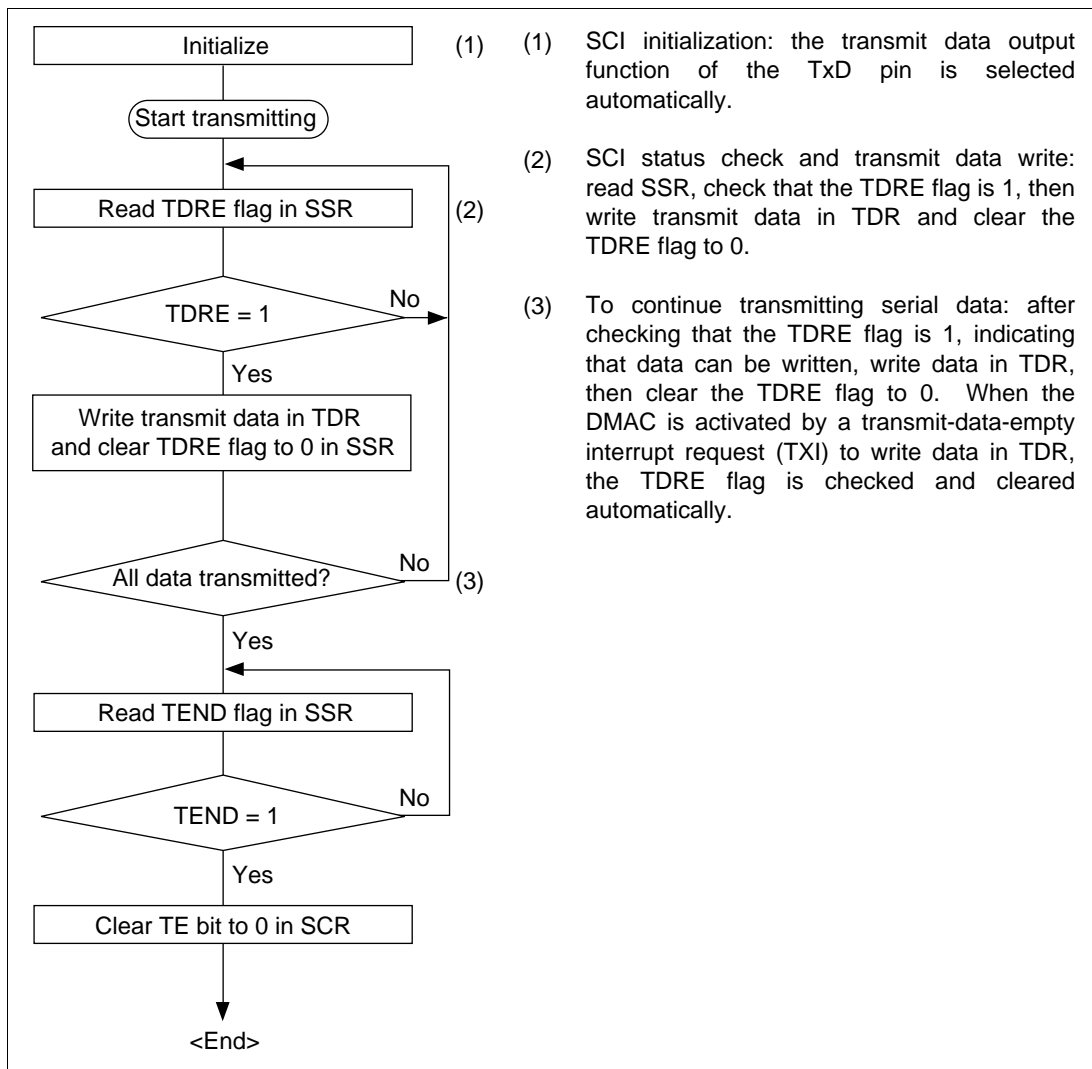

Figure 13.16 Sample Flowchart for Serial Transmitting
- **Transmitting Serial Data (Synchronous Mode):** Figure 13.16 shows a sample flowchart for transmitting serial data and indicates the procedure to follow.